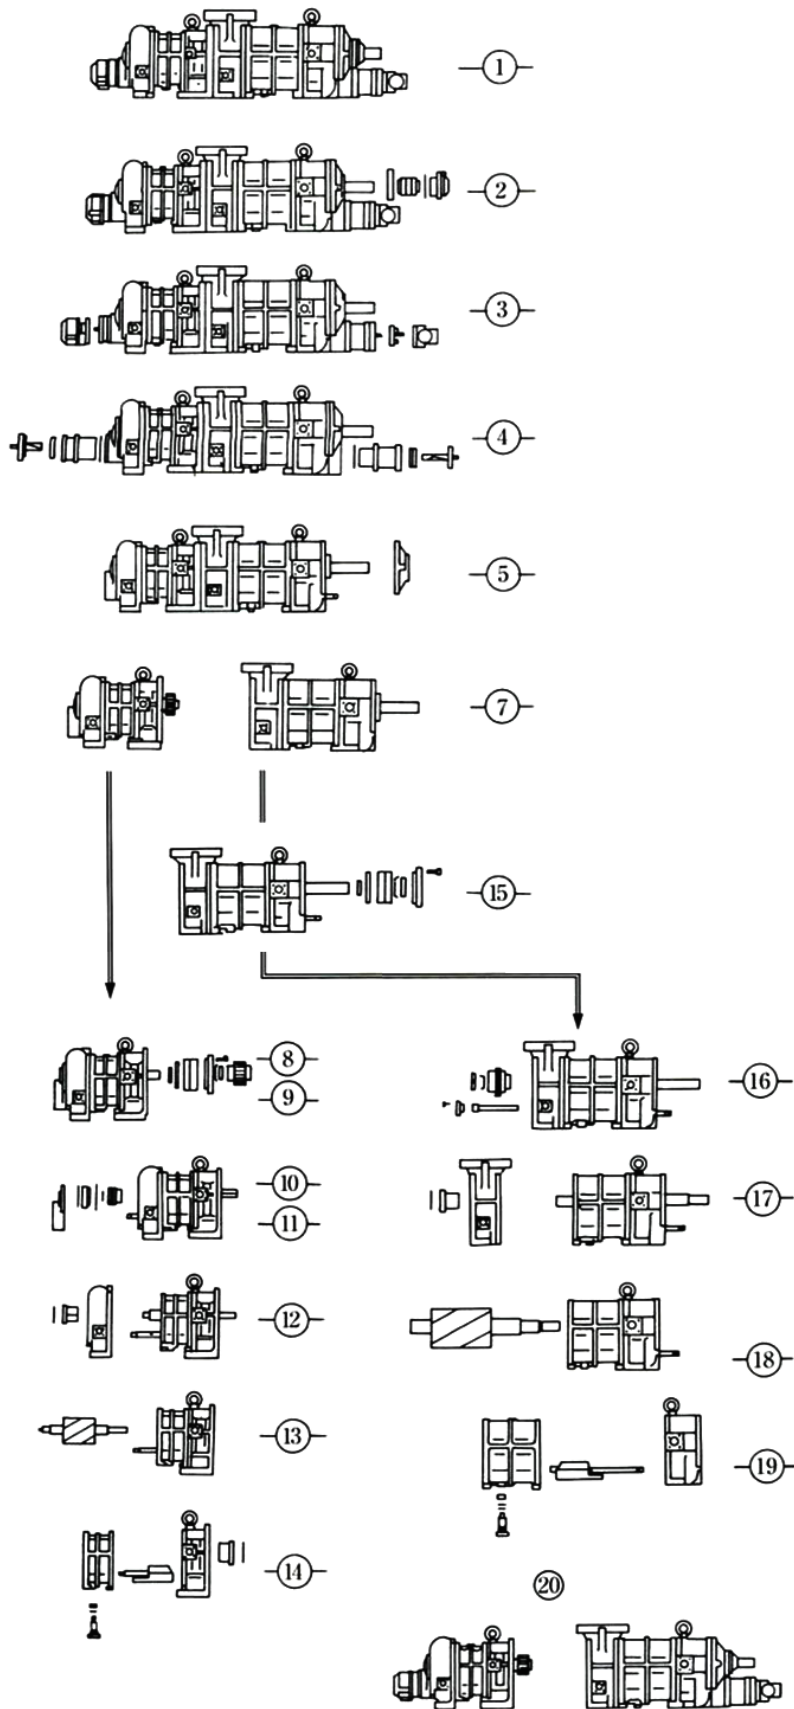

Figure 5-1 Illustrated Disassembly Sequence (example)
Generally compressors are disassembled in the order shown in Figure 5-1 Illustrated Disassembly Sequence but the order in the figure is just an example and the actual order may differ according to individual situations.
In addition it is often the case that the disassembly of unloader cover/unloader cylinder part from mechanical seal part is performed in the reverse order of shown in the Figure 5-1.
Shown in the steps in the Figure 5-1, ① through ⑤, ⑩ and ⑪, you can disassemble the compressor with the compressor attached on its frame.